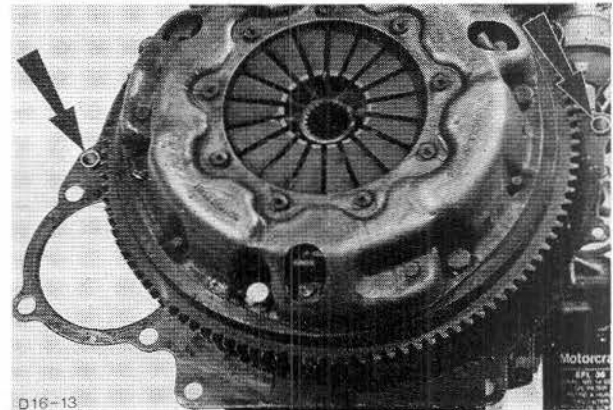

Fig. 13. Engine intermediate plate retainer.
10. If necessary, remove dowel bushes from clutch housing and install in cylinder block. Fit adaptor plate and secure, Fig. 13. Install engine, using special tool. Before installing engine slightly grease input shaft. **Ensure correct position of clutch release lever.**